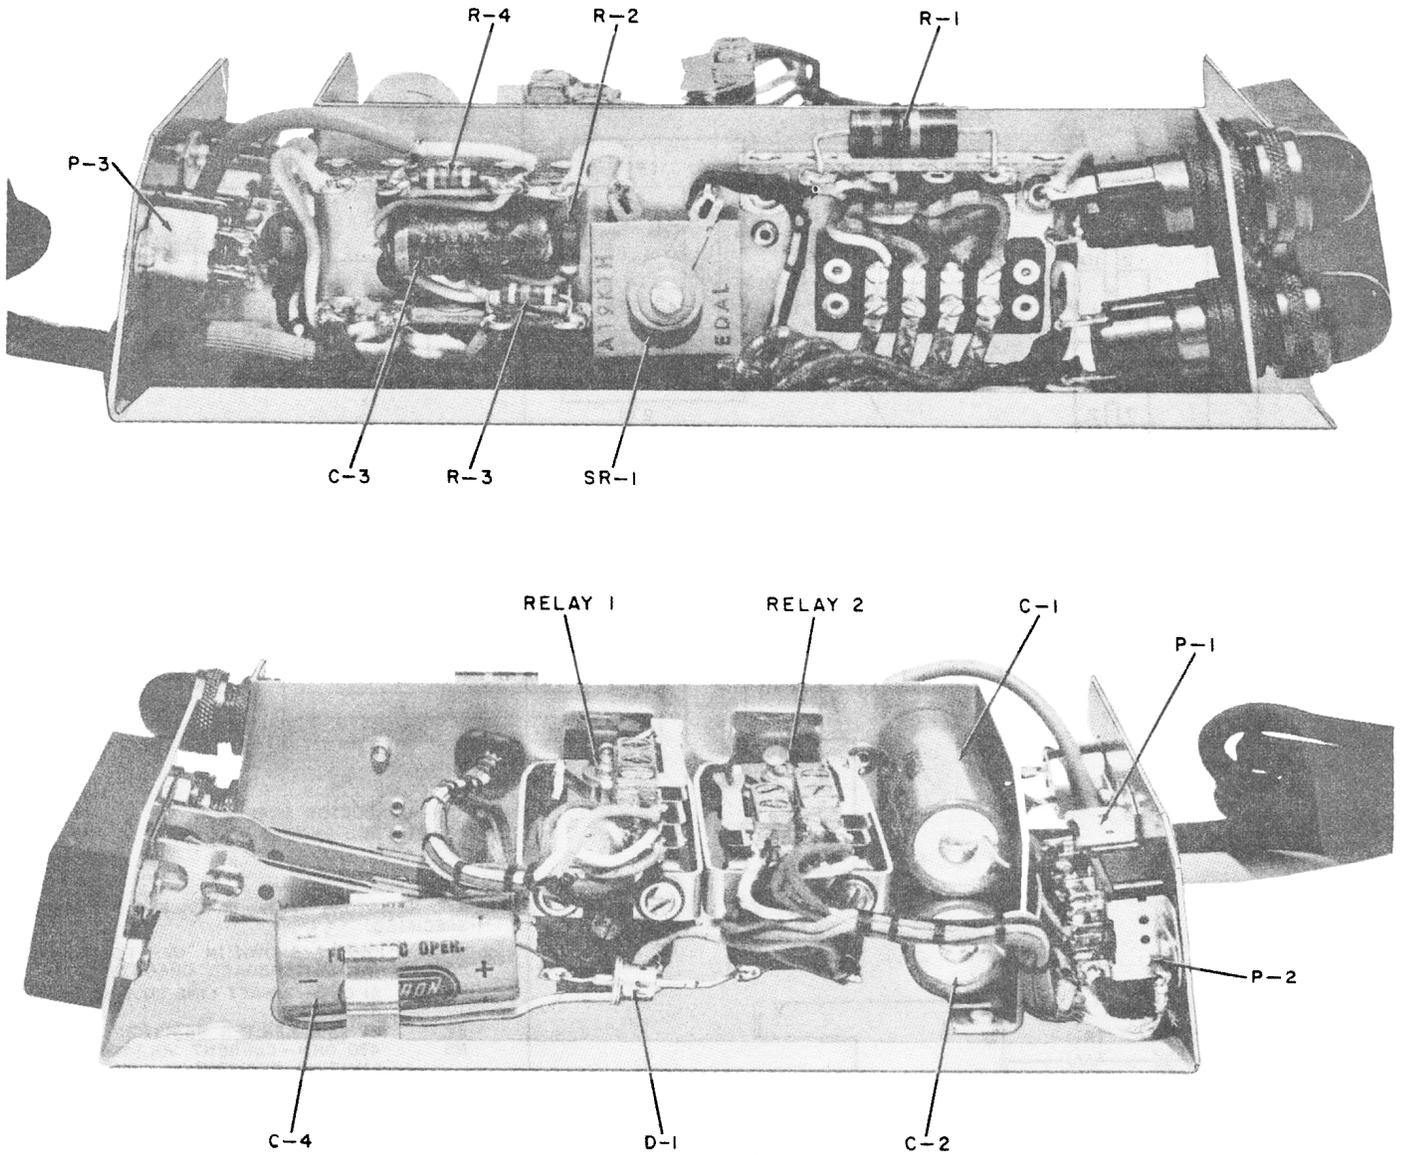
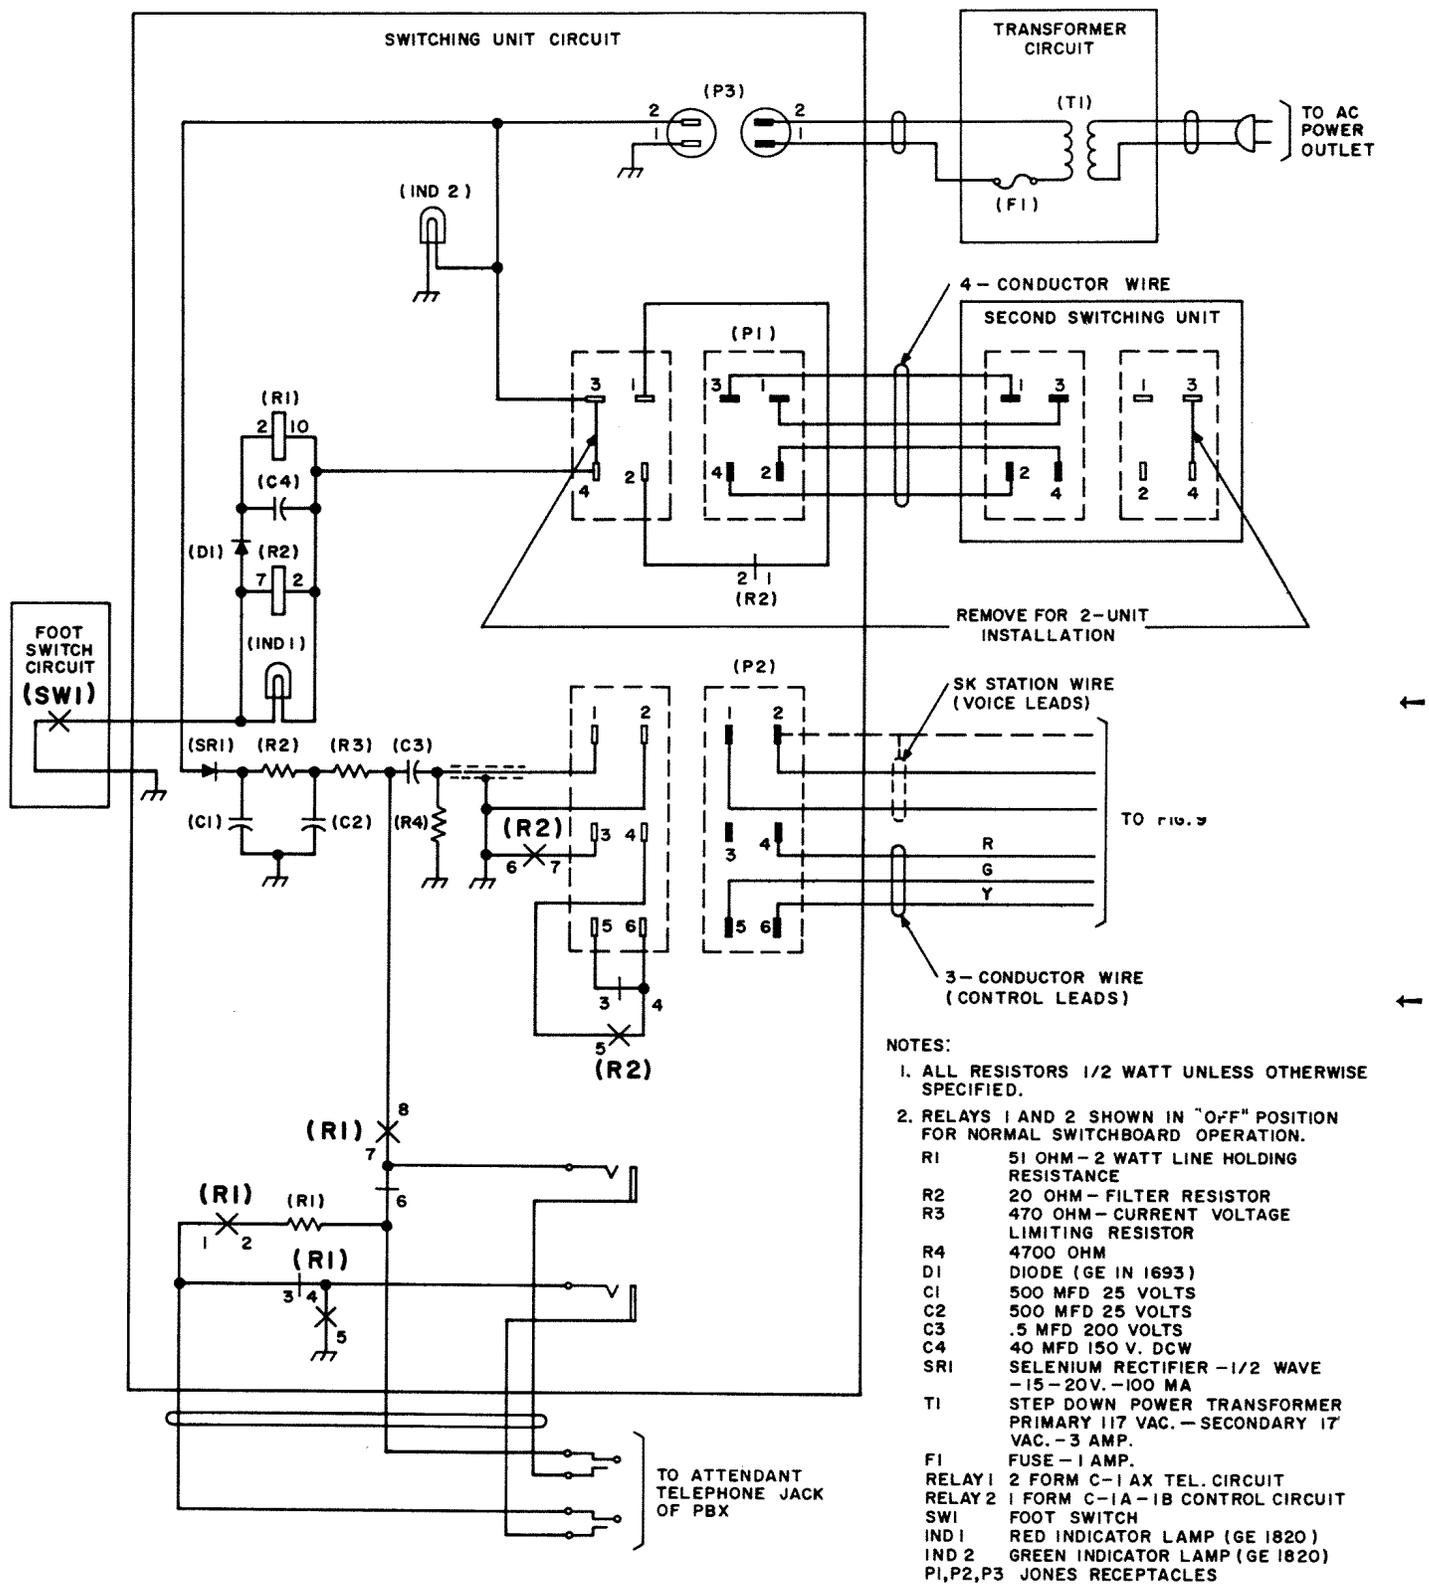

Fig. 7 — Switching Unit with Cover Removed
Fig. 8 — Transmitter Transfer Unit Schematic
4.01 Fig. 7 shows the components of the switching unit. Fig. 8 shows the termination of the SK station wire (voice leads) and the 3-conductor station wire (control leads) at the 6-prong plug (P2). Fig. 8 also shows the termination of the 4-conductor station wire required when two switching units are installed.
**7.01** Fig. 7 shows the location of the various components of the switching unit. Fig. 8 shows the schematic and list of components. Local instructions should be followed during replacement of components for maintenance reasons. See 2.05 for ordering information.